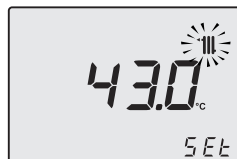

Fig. 2.9
- The heating hot water flow "set" temperature and the symbol '|||||' flash. The background of the display is illuminated (Fig. 2.9).